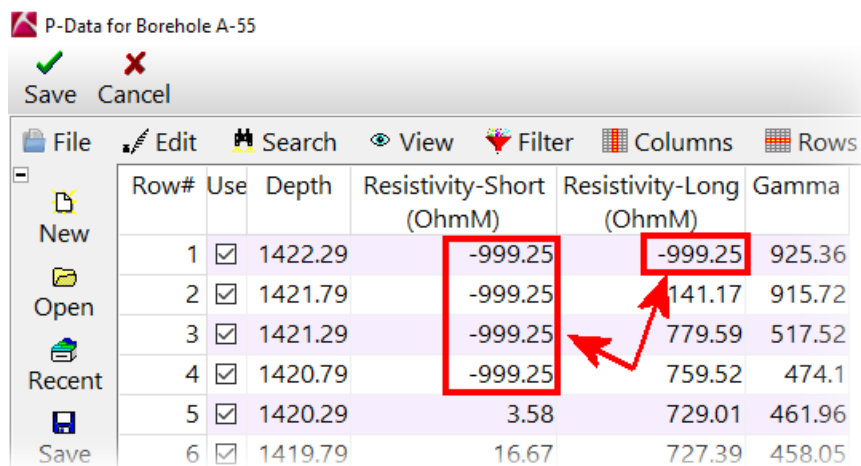
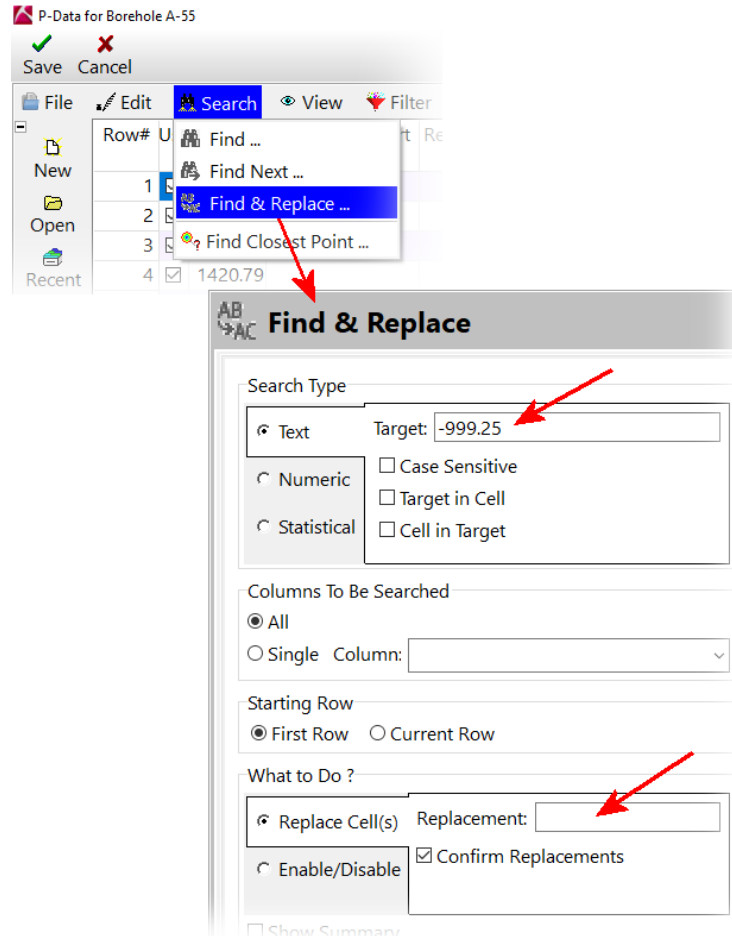

Figure 9
Figure 10
- If the import includes values that represent “no data” (Figure 9), they can either be (1) manually deleted within the datasheet, automatically replaced with the *Datasheet / Search / Find & Replace* tool (Figure 10), or filtered when creating diagrams and interpolating diagrams.